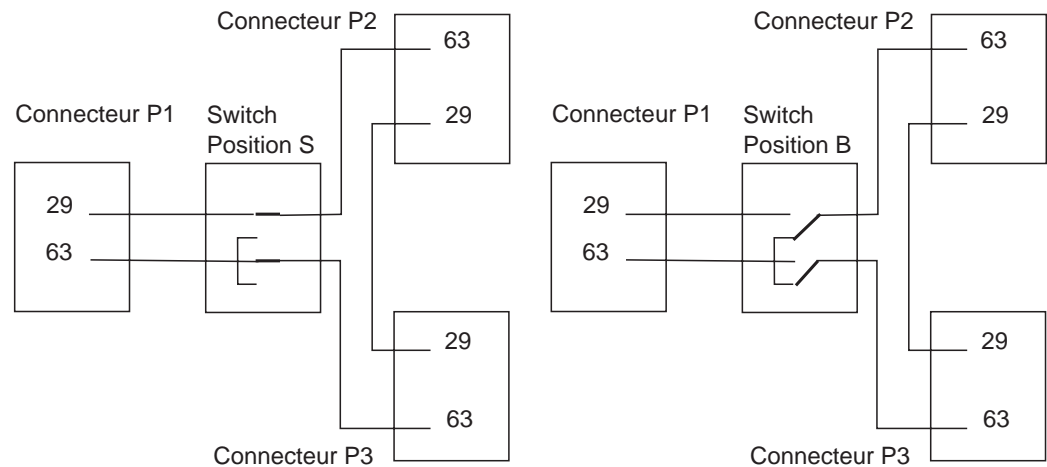

Figure I-59. Wiring Diagram for Switch
**Note:** See Figure I-59 on page I-44 to have more details about switch function.